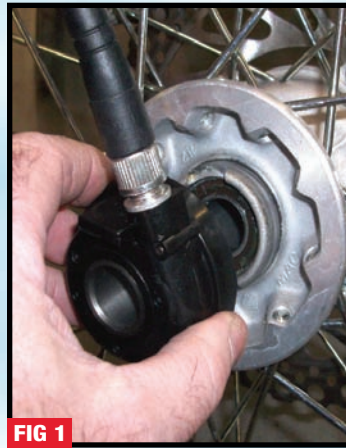

FIG 1
- 3 Pull the speedometer drive (Figure 1) off of the right side of the wheel. Pull the wheel spacer out of the center of the grease seal on the left side of the hub.